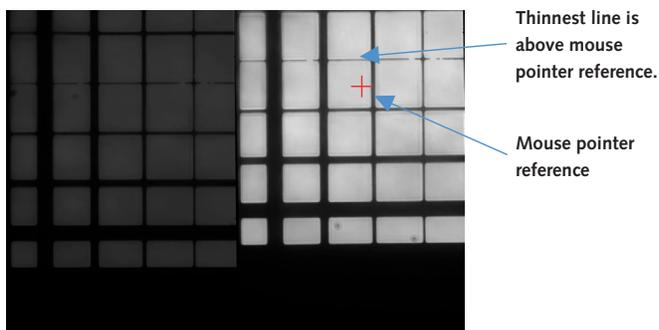

Figure 19. Images of the grid (DV2 Mode) with an edge of the grid in the field of view. The right image is too high in respect to the reference point.
6. Insert the DV2 filter holder all the way into the DV2 tube. Now look **only** at the image on the **right**. Using the mouse pointer as your reference, check to see if this image is too far up or too far down (**Figure 19**) compared to the previous image. Use the U/D knob that controls the **right** image to move the image either up or down until it is in the proper position (according to the mouse pointer).